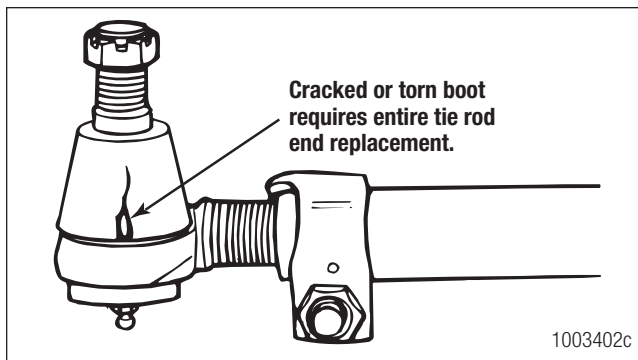

Figure 11.11
5. Check for cracking or tears in the boot. Also check the boot seals for damage. Replace the entire tie rod end if the boot is damaged or missing. Figure 11.11.